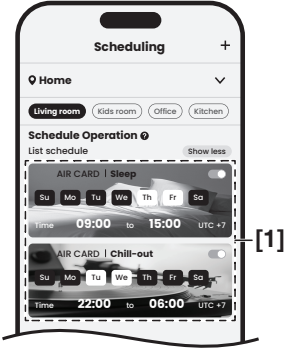

Fig. 3
- Tap [1] the toggle switch to activate or inactivate the schedule. Fig. 3